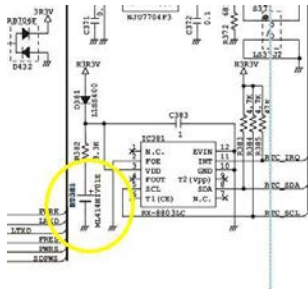

Figure 4 - RTC battery circuit
I was not finished with the radio yet. The customer had asked for a replacement of the RTC battery, remember? This battery is a tiny ML414HIV01E coin cell that has welded solder tabs installed to the cell. When I say tiny, I really mean just that. The battery number gives us its dimensional sizes – 4 mm diameter by 1.4 mm thick. For comparison purposes, consider that 4 mm is equal to about 5/32”. It is a 3.0V cell that is charged by the H3R3V supply line on the MAIN board of the radio. The battery feeds the RTC chip IC381, an RX-8803LC integrated circuit (IC) through a 3.3kΩ current-limiting resistor R382 (Figure 4). The charging current is delivered through an L1SS400 diode D381, whose job is to isolate the coin cell, allowing it to permit the flow of current to the RTC chip but *not* to the remainder of the radio’s circuits, while also permitting the flow of charging current into the coin cell. Enough about the circuit. Let’s talk about replacing the coin cell.